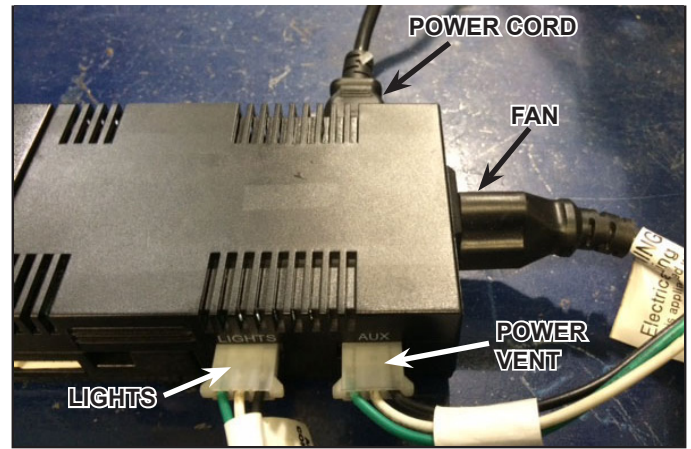

Figure 4.4 Fan, Lights and Power Vent Connection
- To connect a fan kit to the IFT-ACM, insert the three prong male plug from the fan into the receptacle located on the right side of the IFT-ACM. See Figure 4.4.
- To connect a light kit to the IFT-ACM, remove protective rubber cap labeled 'LIGHTS' and connect to the female cord that was supplied in your lights kit into the three male pins on the IFT-ACM. See Figure 4.4.
- To connect a power vent kit to the IFT-ACM, remove protective rubber cap labeled 'AUX' and connect to the female cord of the PVI-WH wire harness into the three male pins on the IFT-ACM. See Figure 4.4.